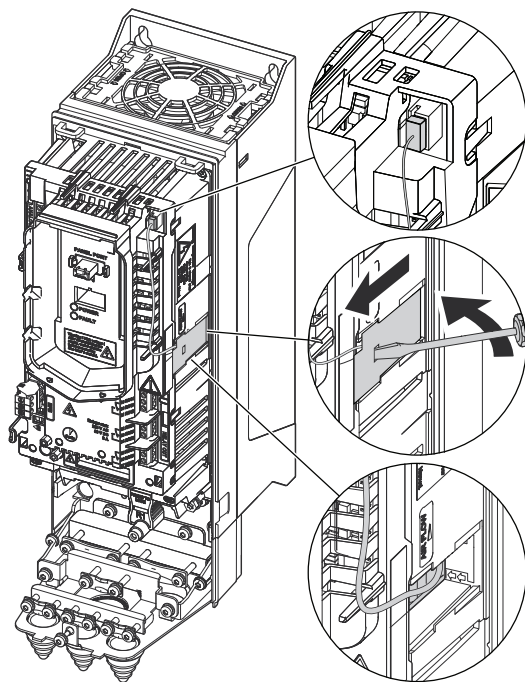

Fig. 47 — Remove Auxiliary Fan
4. Unplug fan power supply wires from the drive (see Fig. 47).
5. Remove the fingerguard: Insert a screwdriver into the hole of the fingerguard (see Fig. 47).
6. Unplug the fan power supply wires from the drive (see Fig. 47).